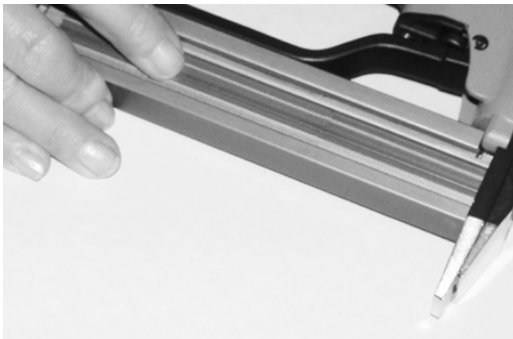

Figure 4
2. Lay the driver down as shown in Figure 4.